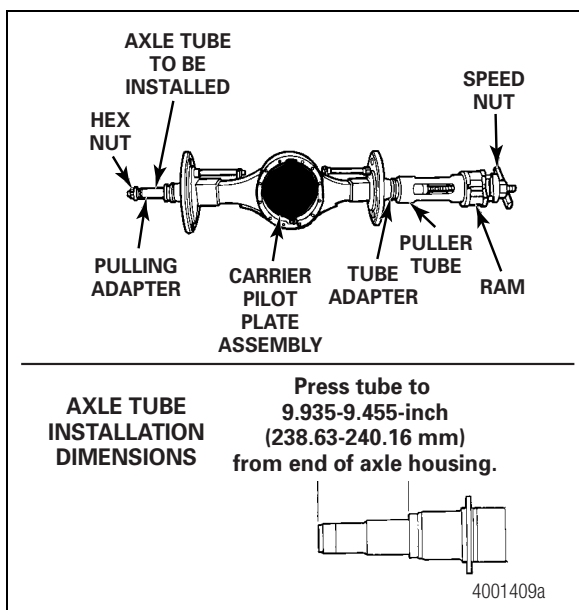

Figure 5.14
5. Install the puller tube onto the tube adapter. Figure 5.14.
6. Install the hydraulic ram onto the puller tube. Install the speed nut onto the puller screw. Tighten the nut to secure the ram and the tube to the axle housing. Figure 5.14.
8. Connect the hydraulic ram to a hydraulic pump. Figure 5.14.
9. Apply pressure to install the axle tube into the housing. Press the axle tube into the housing until the end of the tube is 9.935-9.455-inches (238.63-240.16 mm) from the end of the axle housing. Figure 5.14.